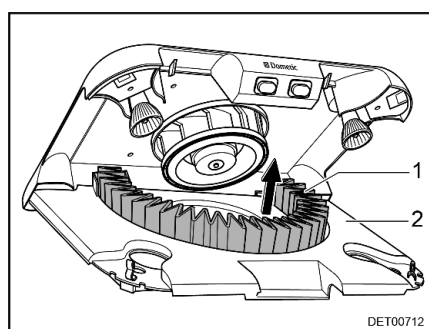

Fig. 117 Changing the active carbon filter
- Remove the active carbon filter (Fig. 117,1) of the holder in upward direction.
- Swivel the filter holder (Fig. 117,2) upwards until it engages.